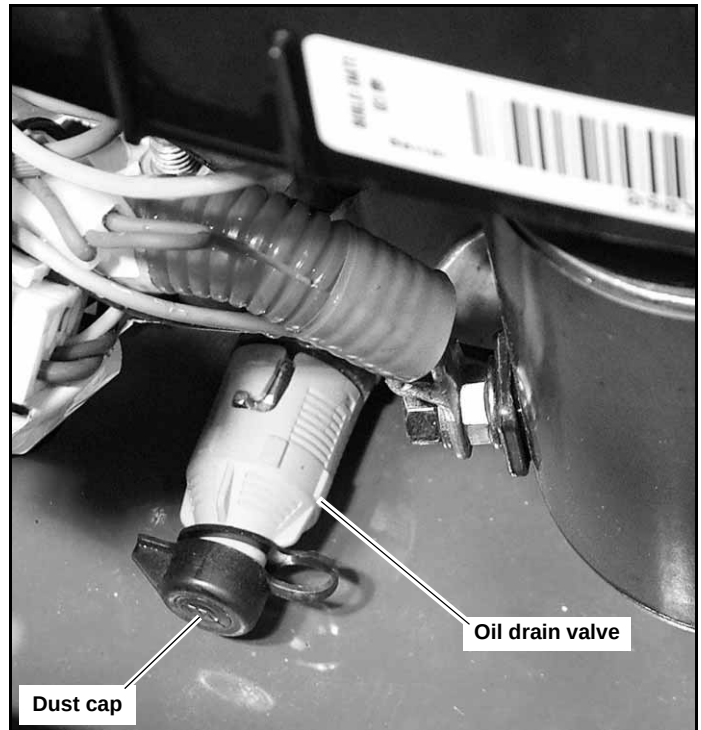

Figure 5-1
A. Draining the engine oil (units equipped with oil drain valve as shown in Figure 5-1):
3. Locate the oil drain hose that was supplied with the machine. Be sure to clean and clear it of debris that might block the flow of the engine oil. Figure 5-1